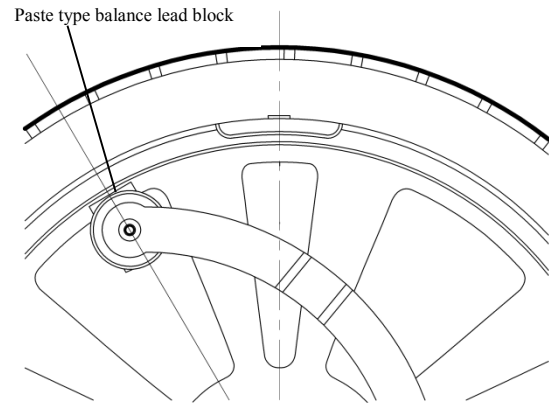

Fig. 20: Placement of Balance Lead Block
2. If a clamp type balance lead block is used, the clamp type balance lead block with the corresponding value on the inner side shall be clamped on the top at the inner side of the wheel (12:00 o'clock position), and for a paste type balance lead block, it shall be pasted with an automatic measuring scale. As shown in Fig. 20.